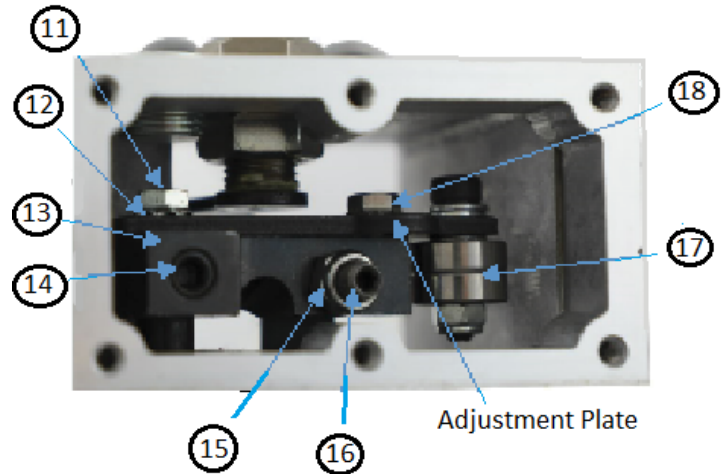

FIGURE 8 ACTUATOR ADJUSTMENT PLATE
11. Carefully loosen screws, Figure 8 (11), and (18) over the slotted portion of the adjustment plate so the operating lever bearing assembly (17) can be moved away from the fuel rack connection link.
13. Rotate the operating lever (13) out from the actuator until it stops. The armature of the actuator will be in contact with the lower cover. Hold in this position.
14. Rotate the adjustment plate and lever bearing assembly, (17), in towards the fuel rack so contact between the bearing and rack connection link is made. Continue to push in an additional 1 to 2 mm.
15. While holding this position, torque the operating lever assembly shaft screw, (11) and screw (18) to 4-6 N·m (35-53 in-lb).
18. The operating lever has a maximum fuel adjustment set screw (16) which can be used to restrict the fuel rack travel. Set the fuel adjustment screw and torque the locknut, Figure 8 (15), on the fuel adjustment screw to 5-6 N m (44-53 inlb).